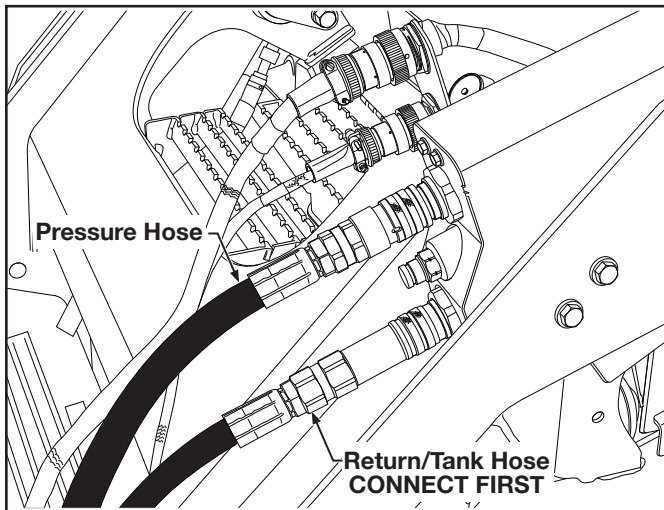

Figure 25. Hydraulic Hose Connections to Skid Steer
NOTE: Most skid steer's have the ability to reverse the hydraulic flow to the quick couplers. Care must be taken that the flow is always engaged the correct direction. (Refer to Figure 25.)
5. Roughly align one of the axis to the grade stakes by sighting over the top of the Rotating Laser (Refer to Figure 25.)